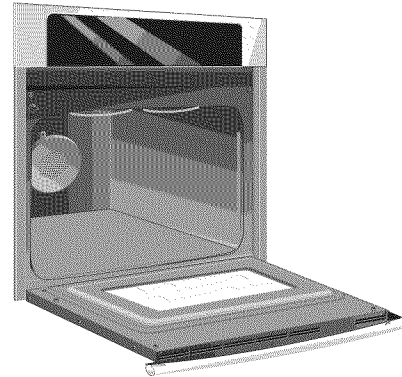

Figure 30: Door at horizontal position
3. Fully open the oven door, horizontal with floor (Figure 30).